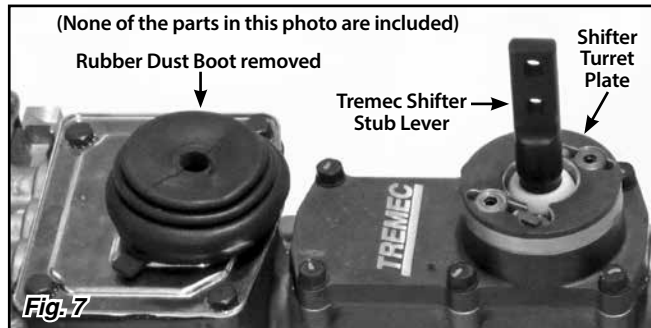

Fig. 7
**Step 4:** Make sure that the transmission is in Neutral. Remove the existing shifter lever (if installed). Remove the rubber dust boot from the top of the shifter turret plate on the transmission, and from the Tremec shifter stub lever. Set the boot aside. **Fig. 7**